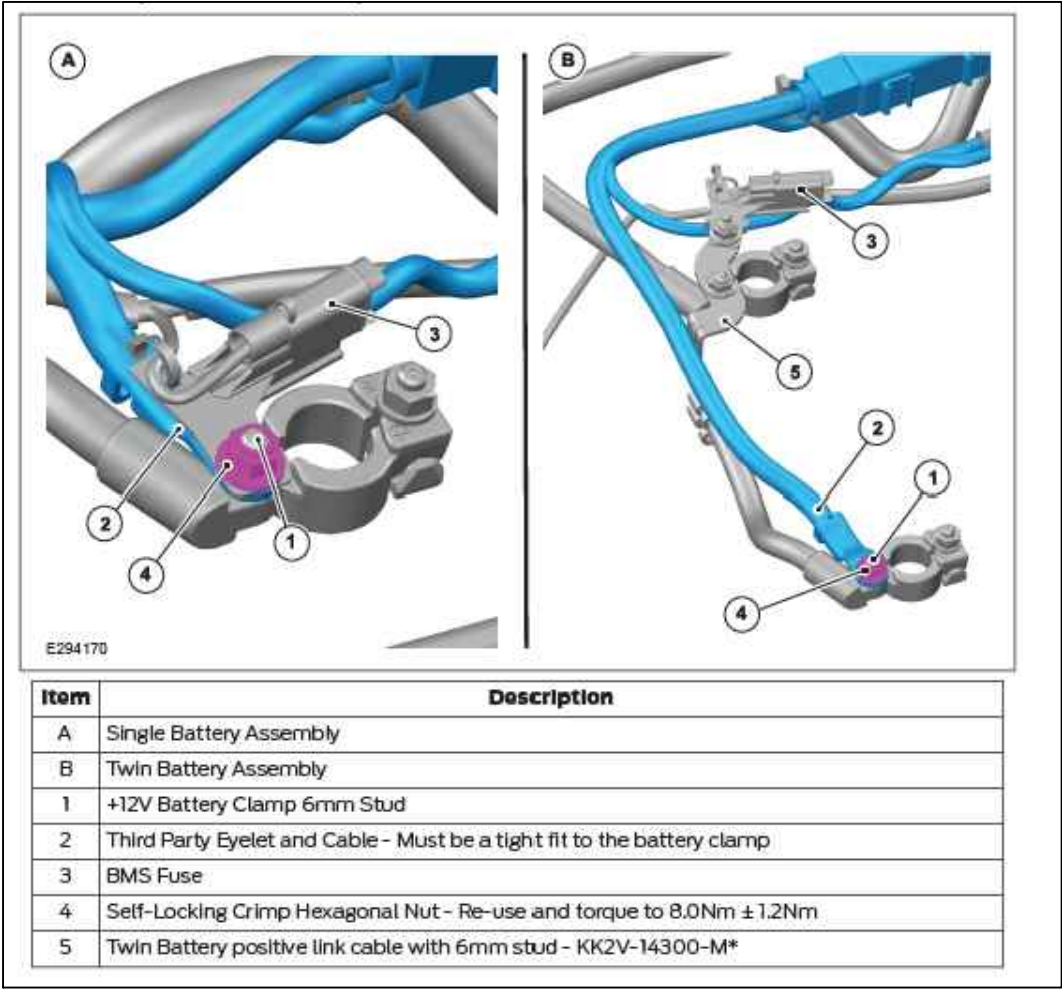

Figure 22: Battery diagram from 2020 Ford Transit Body and Equipment Mounting Manual (BEMM).
16. **Connect** the positive(+) lead to the M6 stud on the positive battery clamp. Reuse the M6 lock nut, when possible (Figure 22).